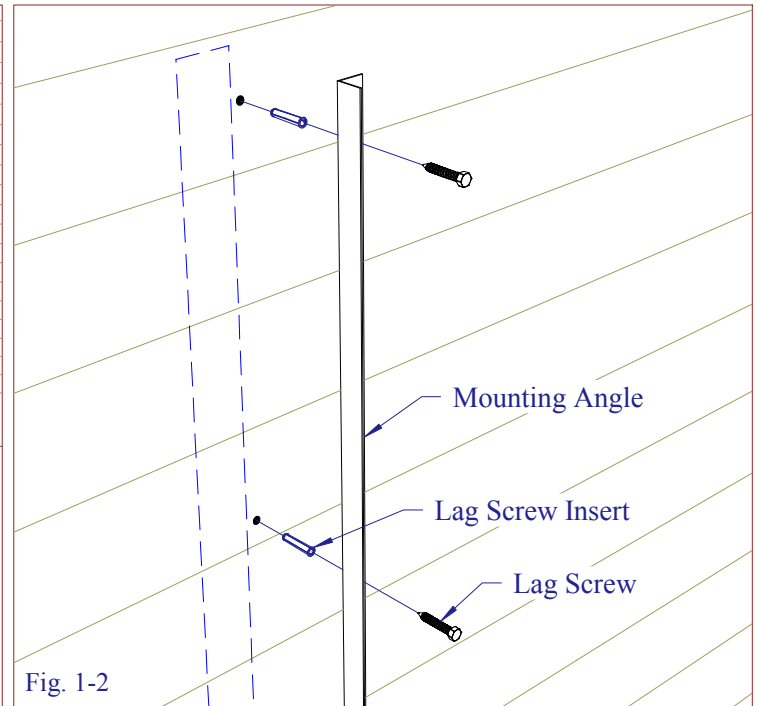

Fig. 1-2
-Anchor one row of mounting angle to the existing structure outside the chalk lines using 1/4" x 1-1/2" lag screws (see Fig. 1-2).